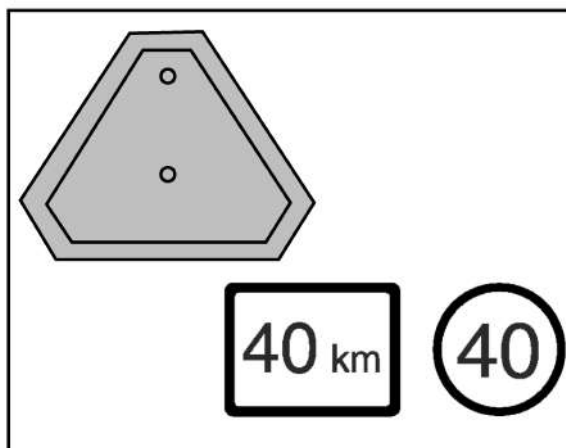

Fig 2.32
- Make sure tractor and equipment are equipped with slow moving vehicle (SMV) signs or beacon if the law requires them and that loads do not obscure them or other lights (fig.2.32).